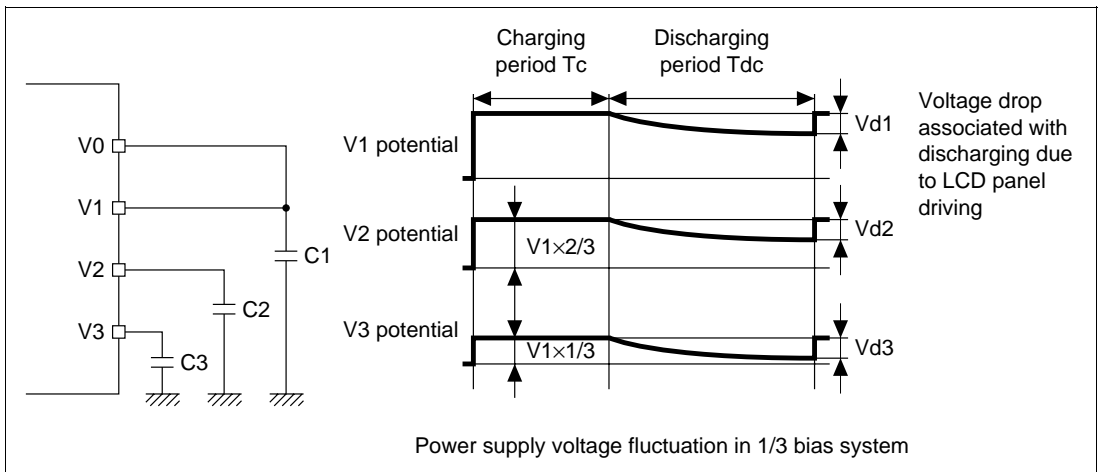

Figure 13.14 Example of Low-Power-Consumption LCD Drive Operation
- a. Capacitors are connected as external circuits to LCD power supply pins V_1 , V_2 , and V_3 , as shown in figure 13.14.
- b. The capacitors connected to V_1 , V_2 , and V_3 are repeatedly charged and discharged in the cycle shown in figure 13.14, maintaining the potentials.
- a. During charging period T_c in the figure, the potential is divided among pins V1, V2, and V3 by the built-in split-resistance (the potential of V2 being $2/3$ that of V1, and that of V3 being $1/3$ that of V1), as shown in figure 13.14, and external capacitors C1, C2, and C3 are charged. The LCD panel is continues to be driven during this time.
- d. In this way, the capacitors connected to V1, V2, and V3 are repeatedly charged and discharged in the cycle shown in figure 13.14, maintaining the potentials and continuously driving the LCD panel.